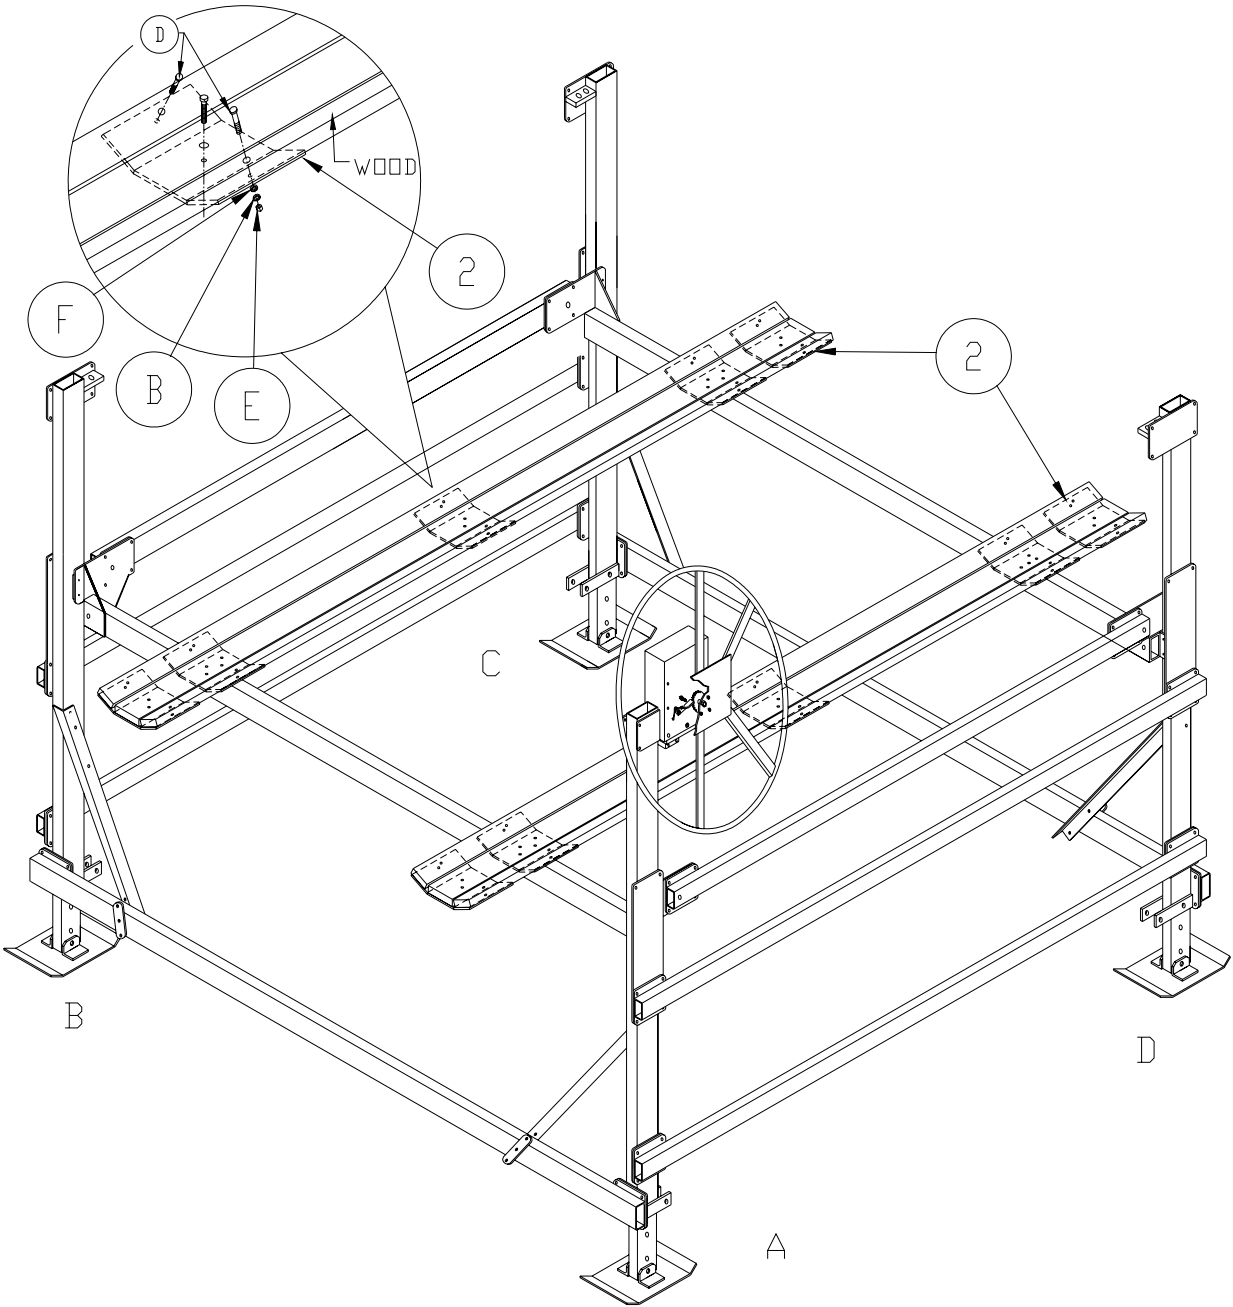

Figure 2-4.
1. Refer to Figure 2-4. Position the six three-hole cradle support plates (2) onto the underside of the wood, three on each pontoon cradle. One each end and one at approximately center.
2. Mark the location of the three holes for each support plate (2) and drill the necessary holes using the 7/16" drill bit. Next drill the optional 1/4" deep countersink.
3. Attach each support plate (2) to the underside of the three pieces of wood using: three carriage bolts (D), three flat washers (F), three split-lock washers (B), and three hex nuts (E).